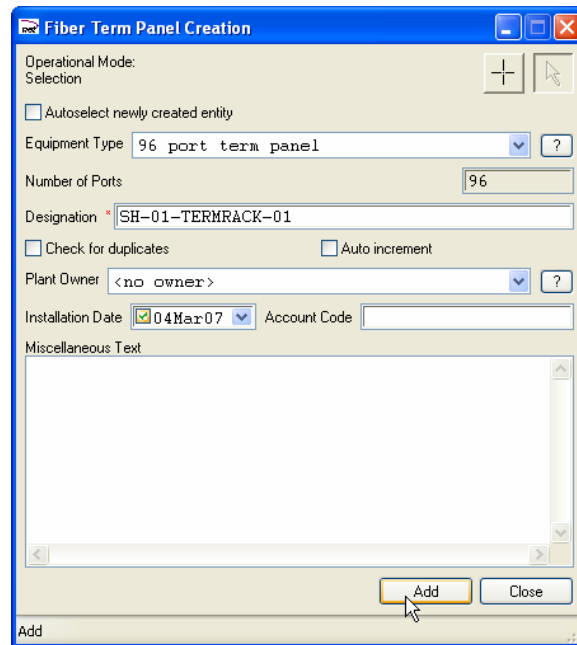

Figure 89 – Fiber Term Panel Creation Dialog Box
4. Ensure that the “Selection” arrow is selected in the **Fiber Term Panel Creation** Dialog Box, as shown in Figure 89, above, and also here: